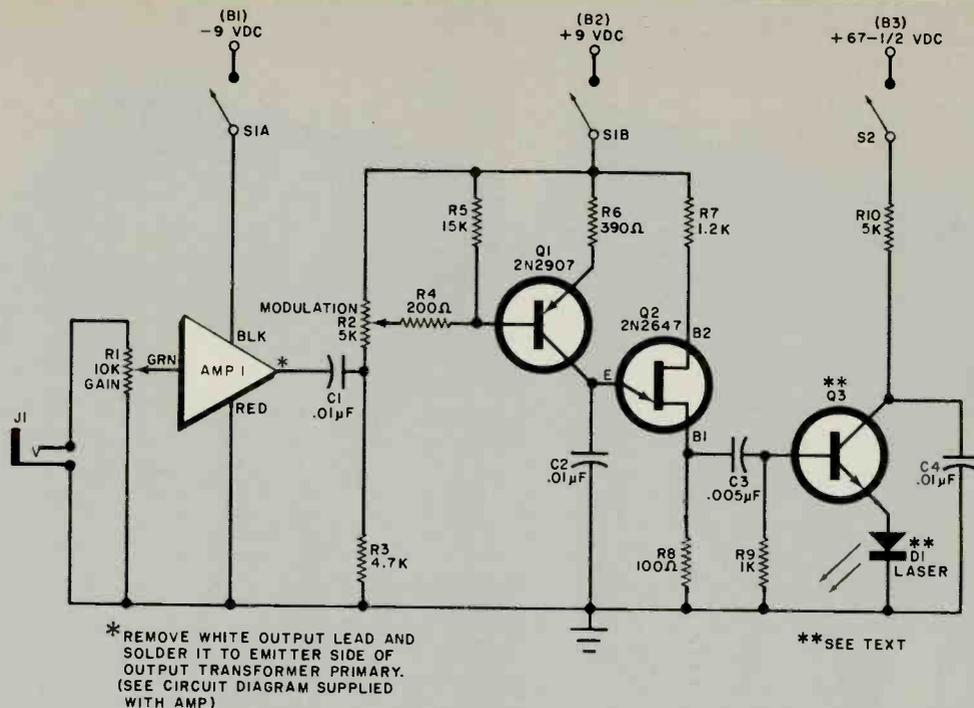

Fig. 1. A commercial modular audio amplifier modulates a UJT oscillator to drive the laser.
While testing the electronic dice, we experimented with finding a way to produce a "roll-down" similar to the effect obtained when regular dice are thrown. This can be done by using the circuit shown here to replace the three-inverter oscillator portion of Fig. 1.
**Transmitter.** As shown in Fig. 1, a modular amplifier (AMP1) boosts the voice signals from a dynamic microphone. In a pulse-frequency modulator (Q1 and Q2), Q2 is a UJT connected in a relaxation-oscillator mode. With no input from AMP1, Q1 is saturated (with very low emitter-to-collector resistance) and Q2 oscillates at a frequency determined by the time constant of C2 and R6. When an input is present on the base of Q1, the frequency of Q2 is varied in direct proportion to the amplitude of the modula-